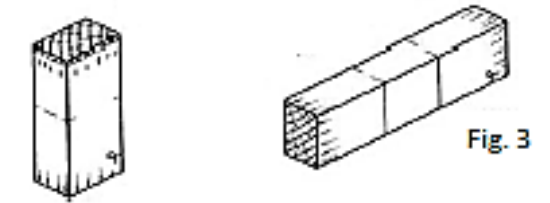

Fig. 3
- Mark out the length of the tenon on the other member. Allow 3 mm waste on the end. Square lines all around (Fig. 3).
(b) Mark the length of the socket (plus 2 mm waste) on the end of the other member, making the length equal to the width of the pin. Square the lines across the face side and on both edges (Fig. 3). Remember to smooth the pieces before using them to mark.
This joint is similar to the plain glued butt joint, but strength is added by means of cylindrical wooden pins, called dowels. Dowels are made as explained in the section on securing joints. The dowels are then glued into holes in the edge of each board (Fig. 3). The diameter of the dowels should be about one-third of the thickness of the pieces that are being joined.